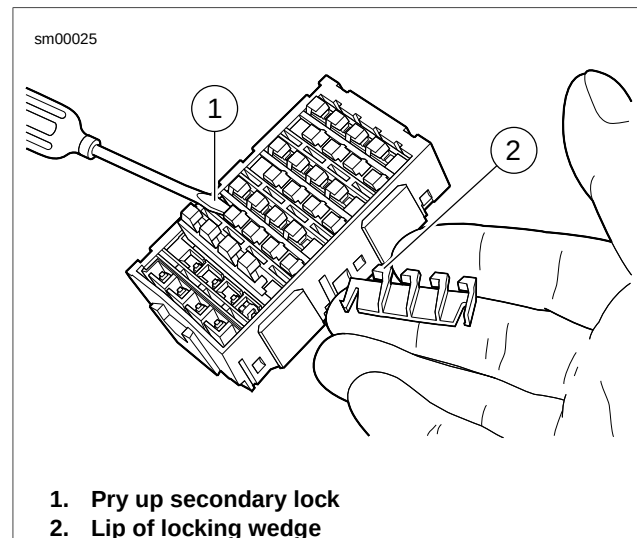

Figure A-38. Fuse Block: Remove Secondary Locks
1. See Figure A-38. To remove secondary locks, insert end of small flat blade screwdriver (1) under lip of locking wedge (2) and gently pry up secondary lock.